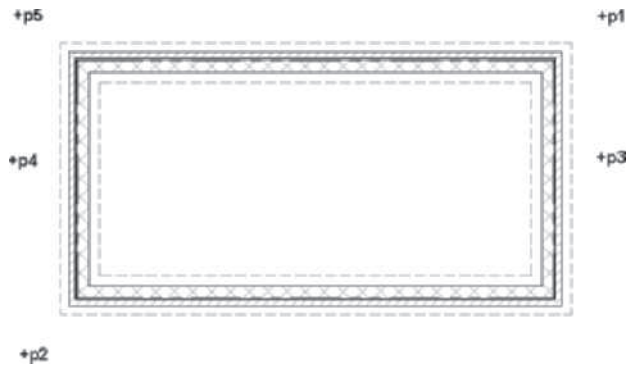

FIGURE 8.27 Selection of object for Edit in Section view
10. Select a point near **p1** as shown in Figure 8.27 and move the cursor to point p2, click to select the walls and slab. Choose **Edit in Section** from the General panel of the Multiple Objects tab. Respond to the workspace prompts as follows:
Specify first point of section line or ENTER to change UCS: (Select a point near p3 as shown in Figure 8.27.)
Specify next point of section line: (Select a point near p4 as shown in Figure 8.27.)
Specify section extents: (Select a point near p5 as shown in Figure 8.27.)